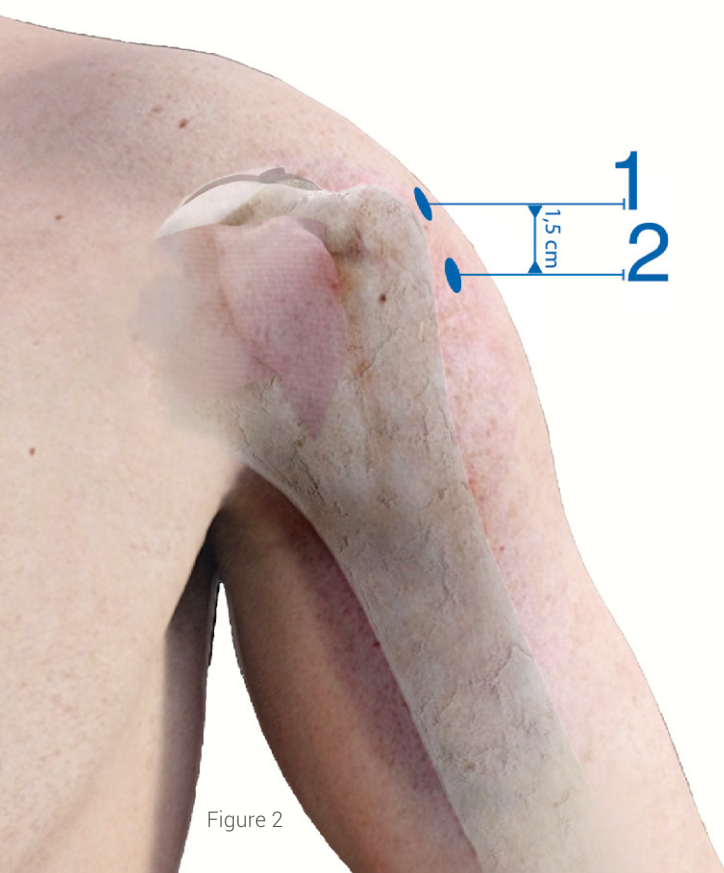

Figure 2
See below portal 1. (Fig. 2)
► CREATE THE WORKING PORTAL N. 2 (FIG. 2) FOR THE CANNULA OF TAYLOR STITCHER, 1,5 CM DISTAL TO PORTAL N.1 (FIG. 2).